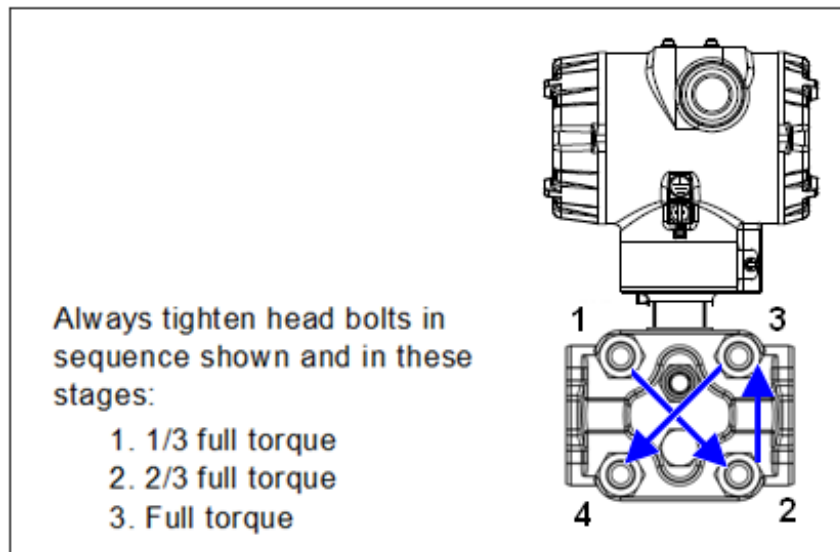

Figure 18 – Head Bolt Tightening Sequence
4. Loosen the nuts in the sequence shown in Figure 18.
12. Using a torque wrench, gradually tighten the nuts in the sequence shown in Figure 18. Tighten head bolts in stages of 1/3-full torque, 2/3-full torque, and full torque. See Table 19 for torque requirements versus Transmitter type and model.